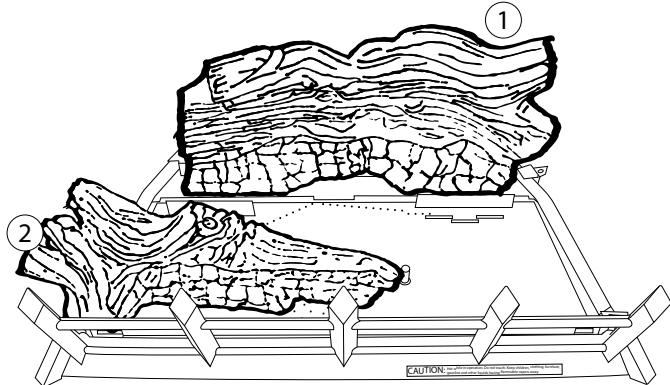

Figure 46
2. Place the front left log (#2) on the pin located on the left side of the burner. (See Figure 46.)